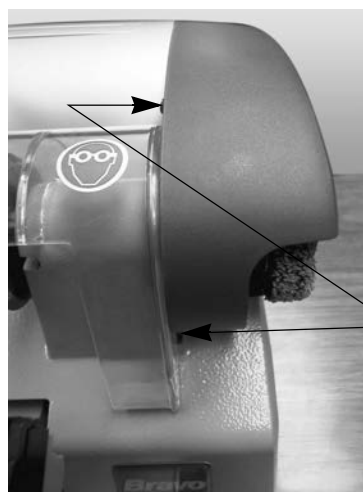

Fig. 41
- 4) Loosen the 3 screws (T2) (fig.41) on the belt cover and remove (pull out towards the front of the machine).
4) Loosen the 3 screws (T2) (fig. 41, page 29) on the belt cover and remove (pull towards the front of the machine).
- 6) Replace the belt cover and fix with the 3 screws (T2) (fig. 41, page 29).
- 5) Loosen the 3 screws (T2) (fig. 41, page 29) on the belt cover and remove (pull towards the front of the machine).
- 18) Replace the belt cover and fix with the 3 screws (T2) (fig. 41, page 29).